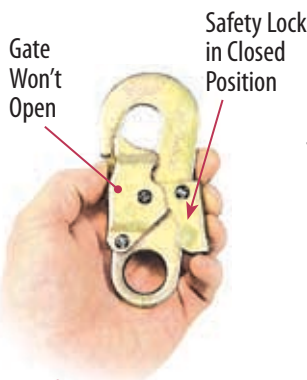

Fig.4
- b) As shown at **Fig.4** push on locking gate only and do not push on the safety lock. The gate should not move at all.